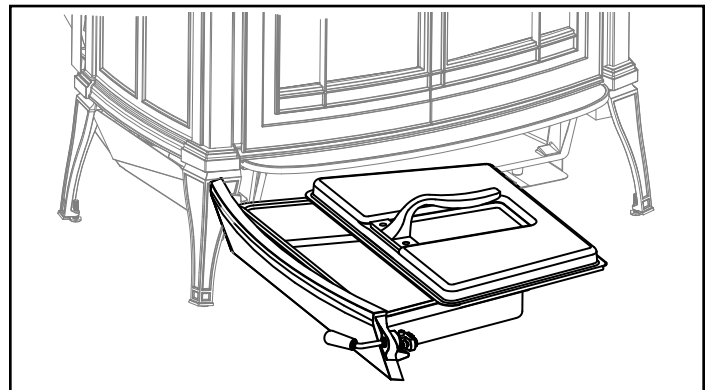

Figure 5.9 - Be sure the cover is securely attached before removing the ash pan.
- Slide the cover onto the pan, making sure it is securely closed, Figure 5.9.